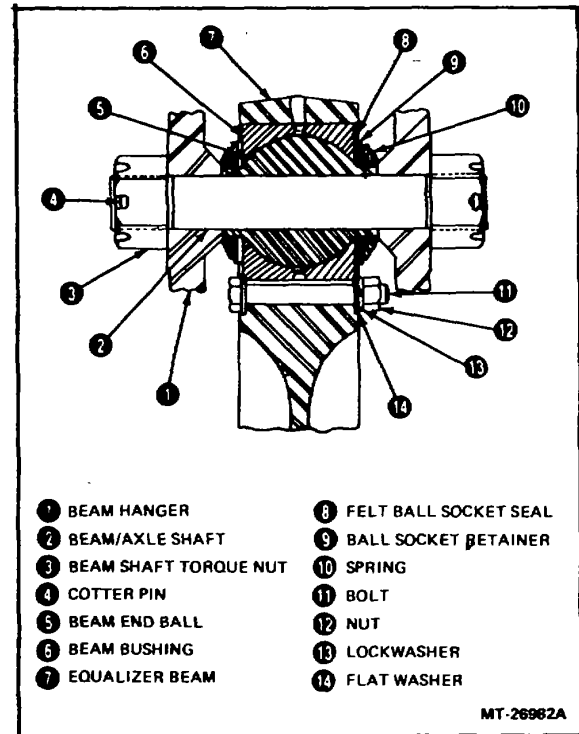

Figure 10 - Ball and Socket Beam End
Ball and Socket Beam End Mounting, Figure 10
4. Install bolts and locknuts and tighten to 6267 N-m (45-50 lb.-ft See Figure 10 for detailed view).